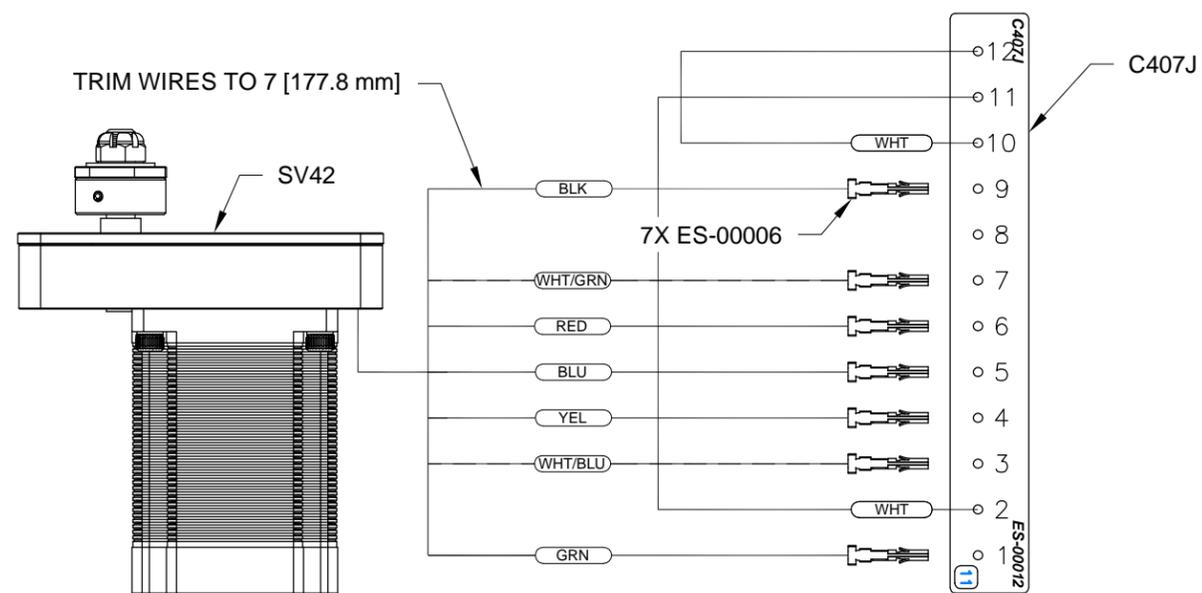

FIGURE 2: INSERT SV42 SERVO WIRES
Step 4: Insert the sockets from the SV42 servo into the 12-pin Molex receptacle on the WH-00077 Autopilot Termination Harness in the positions shown in Figure 2. See Page 19-06.